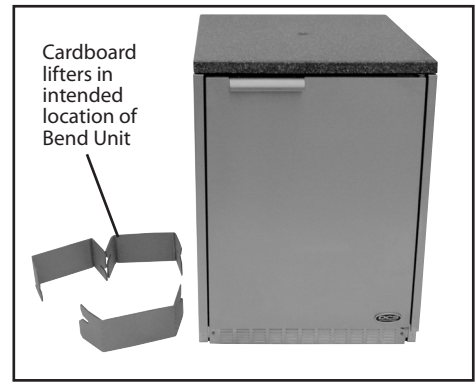

Fig. 13
2. Place the three cardboard lifters from the packaging on the ground next to the refrigerator in the approximate position of the Bend Unit (Fig. 13).